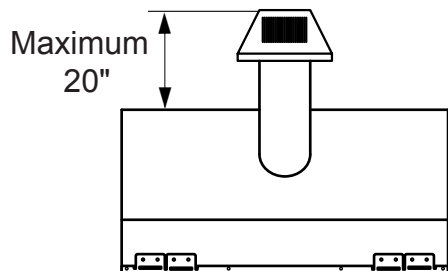
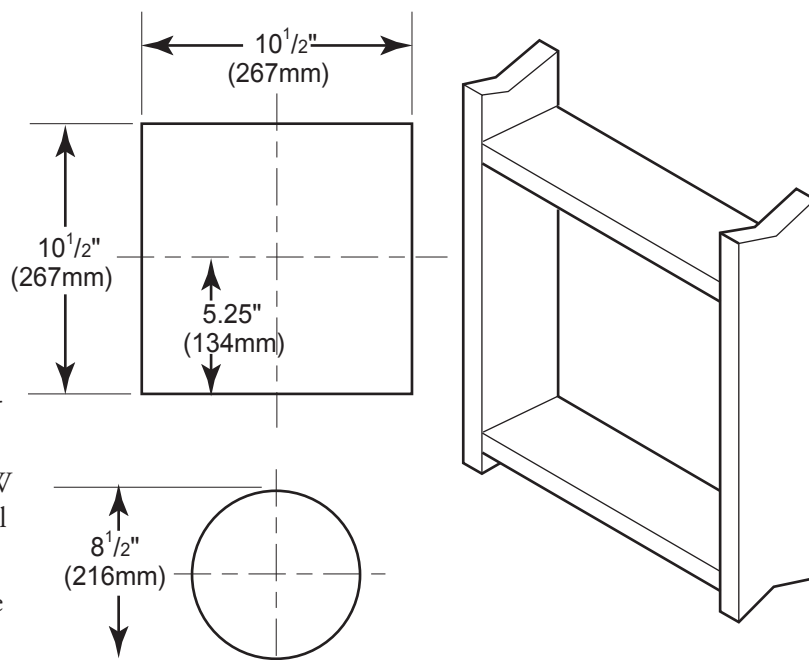

Figure 11 - Rear Vent Application, Maximum Horizontal Distance
Figure 12 - Vent Opening Requirements
The maximum horizontal distance between the rear of the appliance and the outside of termination is 20" (508 mm). See *Figure 11*.
1. Locate and cut the vent opening in the wall. For combustible walls first frame in opening. See *Figure 11*.
Combustible Walls: Cut a 10 $\frac{1}{2}$ "H x 10 $\frac{1}{2}$ " W (267mm x 267mm) hole through the exterior wall and frame as shown. See *Figure 12*.
3. Attach vent pipe assembly to the fireplace. Set fireplace in front of its permanent location to insure minimum clearances. Mark the wall for a 10 $\frac{1}{2}$ "H x 10 $\frac{1}{2}$ "W (241mm x 241mm) square hole (for noncombustible material such as masonry block or concrete, a 8 $\frac{1}{2}$ " [216mm] diameter hole is acceptable). See *Figure 11*. The center of the hole should line up with the center line of the horizontal rigid vent pipe end. Be sure to allow for minimum rise. Cut a 10-1/2"x10-1/2" (267mm X 267mm) square hole through combustible exterior wall (8 $\frac{1}{2}$ " [216mm] diameter hole if noncombustible). Frame as necessary. Allow $\frac{1}{4}$ " minimum rise per foot. See *Figure 12*.
1. Establish vent hole through the wall. *See Figure 12, page 17.*